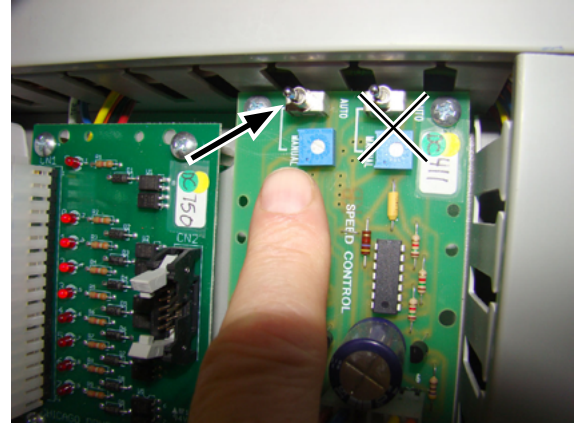

Figure 7-20: Turn the speed toggle to MANUAL before adjusting its potentiometer.
11. Locate the speed control board and turn the speed toggle switch to MANUAL (Figure 7-20).
- b) Make sure the speed toggle is turned to AUTO (Figure 7-20).